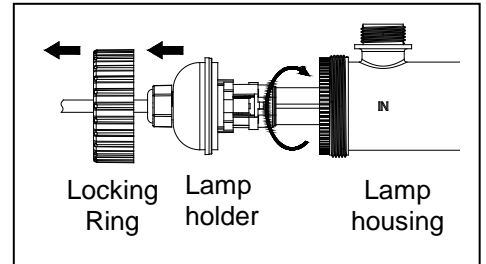

Fig. 8
2. Rotate the locking ring counterclockwise to remove the lamp holder. Fig. 8